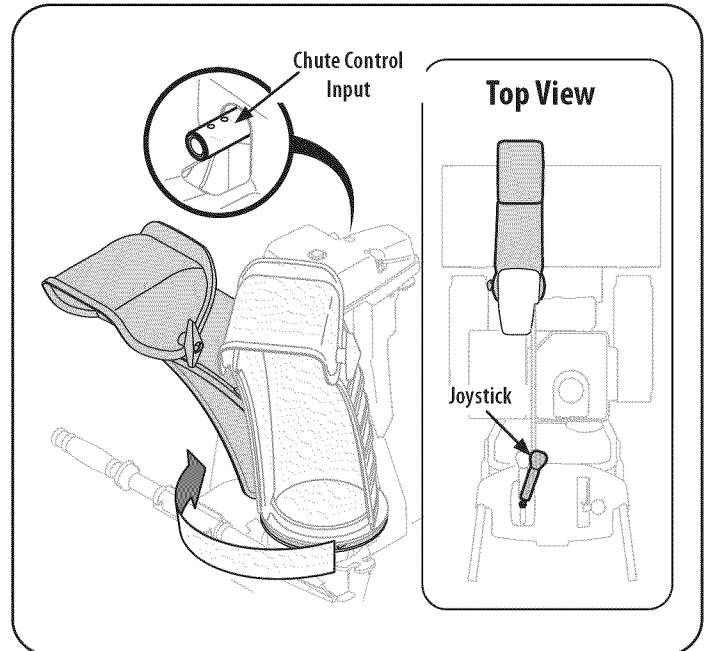
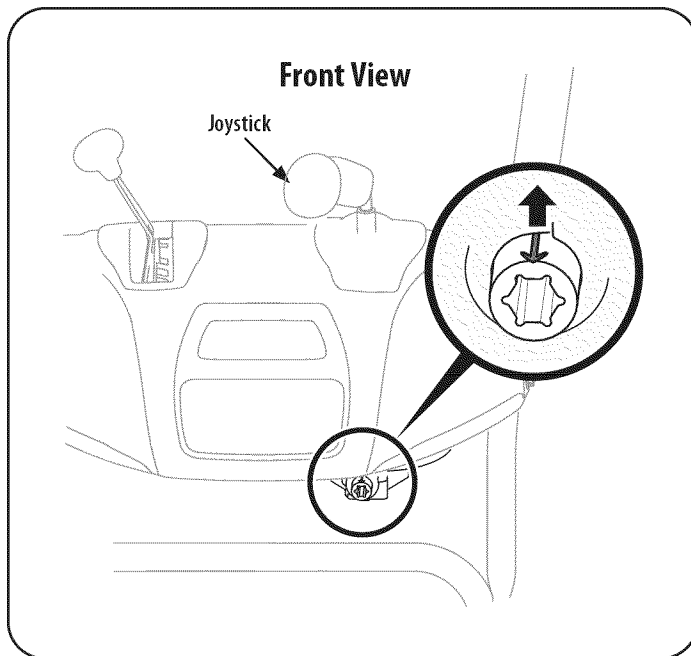

Figure 6
Figure 7
5. Squeeze the trigger on the handle panel joystick and rotate the chute by hand to face forward. The holes in the chute control input will be facing up. See Figure 6.
6. Rotate the joystick to the one o'clock position so the silver indicator arrow on the input shaft below the control panel points upward. See Figure 6.
**NOTE:** The joystick will be angled slightly to the right. See Figure 6 & Figure 7.